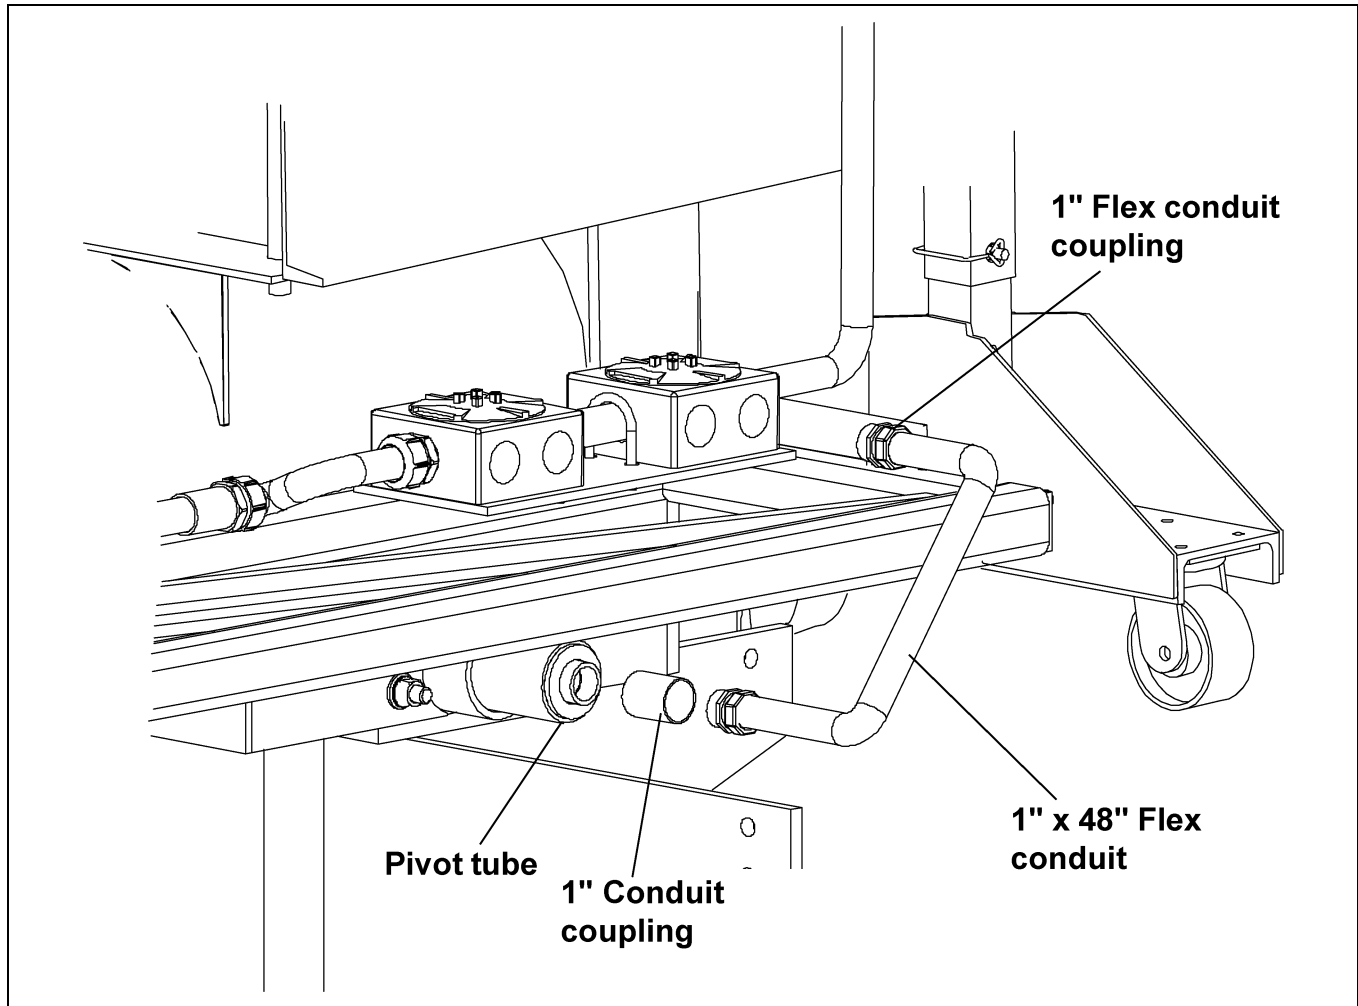

Figure 5AL
10. The customer is to provide proper power cord protection between the pivot assembly and the sump transition. (See Figure 5AL.)